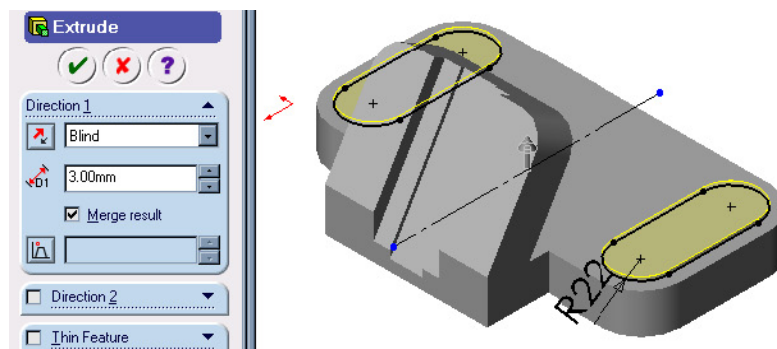

Figure 20 Hole Boss Extrusion Parameters
18. Type **3 mm** in the **distance 1** box as shown in Figure 20.